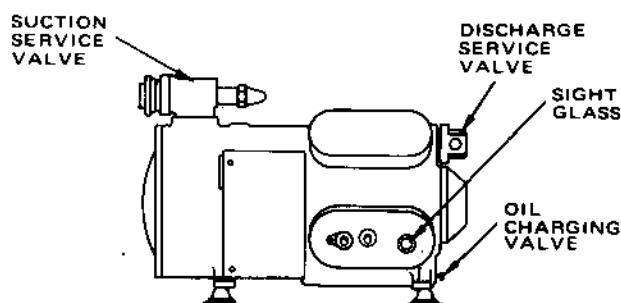

FIGURE 1—Typical Hermetic Compressor.
Oil should be visible in the compressor oil level sight glass with the compressor operating. See Figures 1 and 2.
4. Back-seat the compressor suction and discharge service valves and then crack them off the back-seat to open the suction and discharge pressure gage lines to system pressures (see Figures 1 and 2).